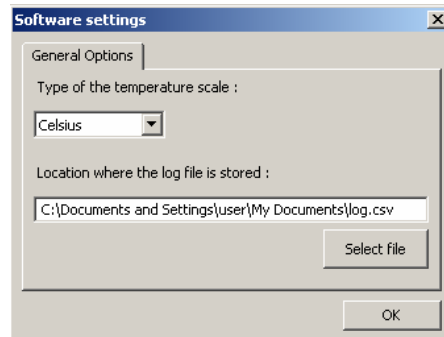

Fig. 5.16
3. From “Software settings” window choose the desired settings (Fig. 5.16).